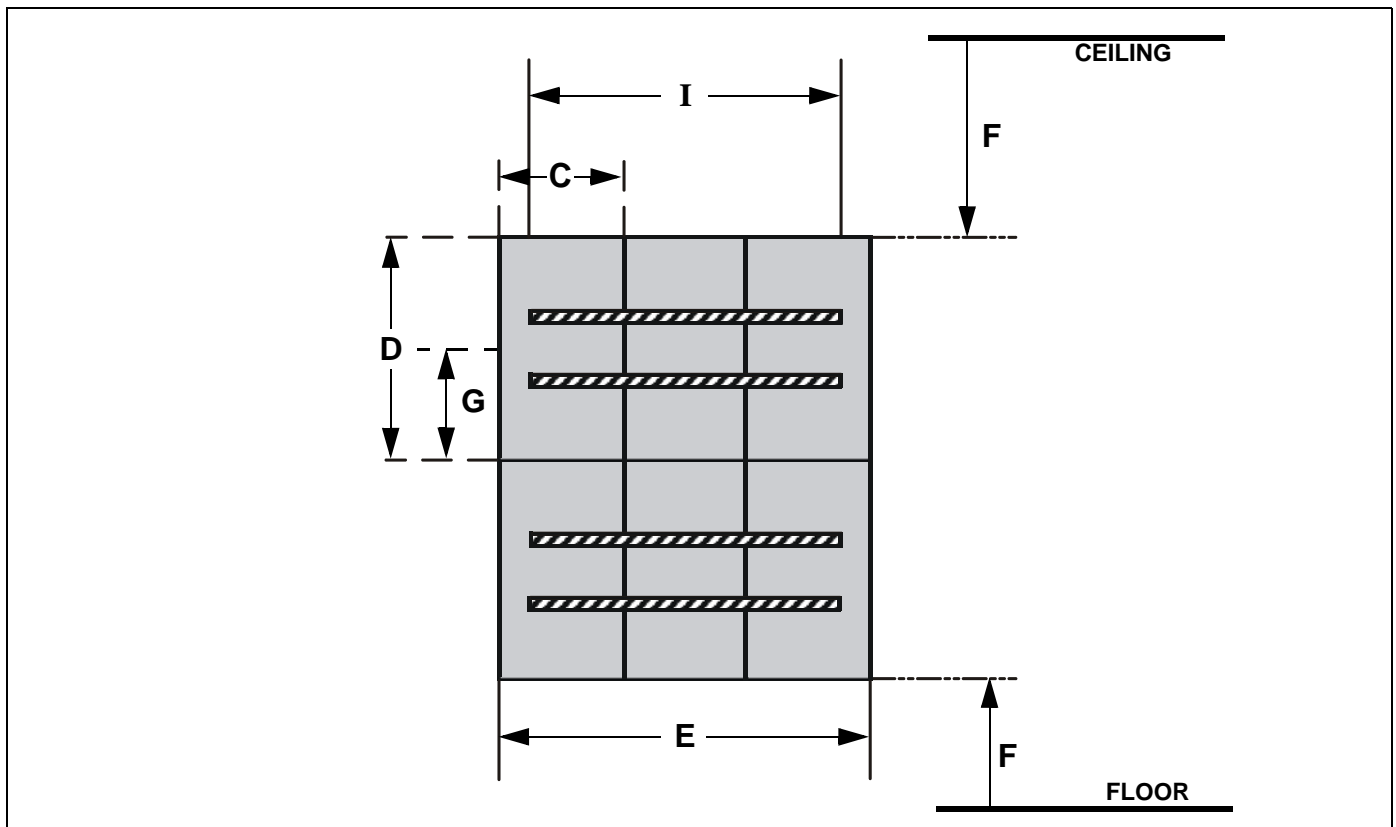
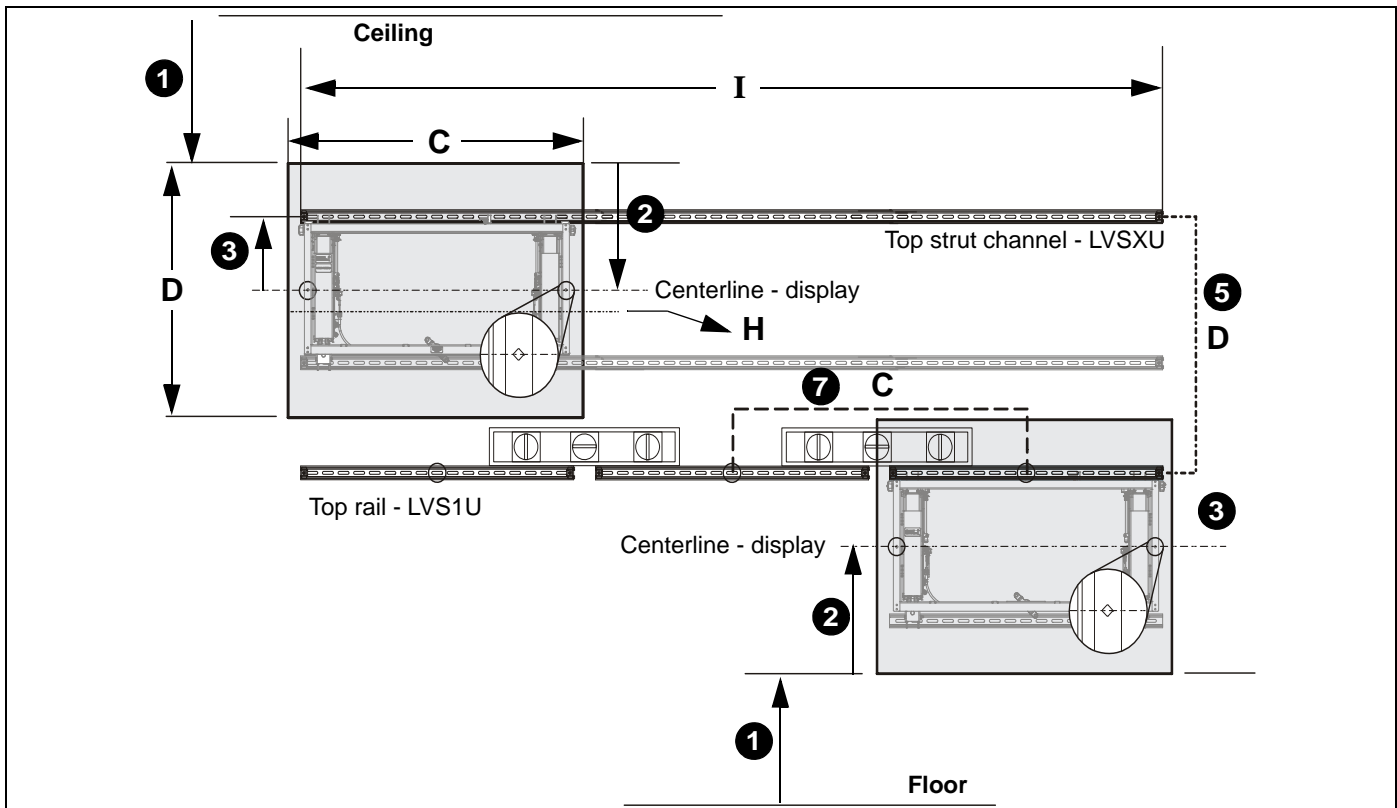

Figure 1
Figure 7
1. Mark distance **(F)** from floor to desired location for **bottom** of display **OR** from ceiling to desired location for **top** of display (if installing top row first). (See Figure 1) and (See Figure 7)
2. Mark distance **(G)** from bottom of display (or top of display) to center line of display. (See Figure 1) and (See Figure 7)
4. Level and attach strut channel/rail (V) using the provided hardware. See **Parts** drawing, (See Figure 7) and (See Table 4).
8. **(LVS1UP only)** Measure over **(C)** (width of display) from center of first installed rail, level and mark location of adjacent rail. (See Figure 1) and (See Figure 7)
10. Attach upper rails (V) using **Fastener Information**. (See Table 4)
11. Measure up from attached rails the distance **(D)** and mark for next row of rails (V). (See Figure 1) and (See Figure 7)
13. Repeat Step 11 for any remaining rows of rails (V).